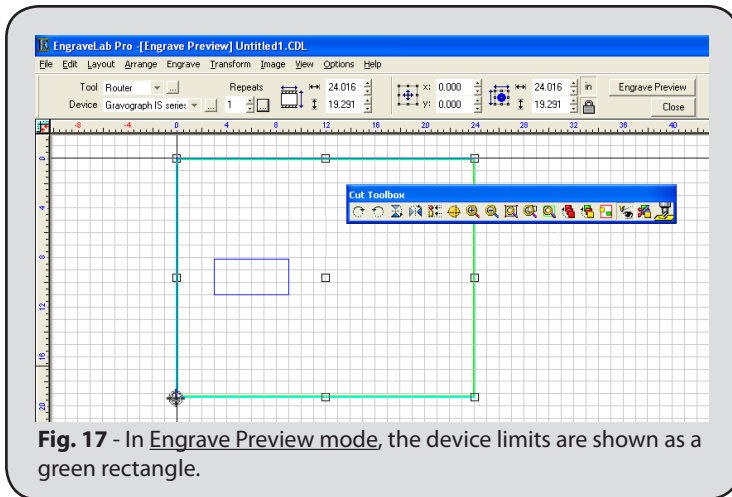

Fig. 17 - In **Engrave Preview** mode, the device limits are shown as a green rectangle.
1. Now that the tool path has been created, choose **Engrave** menu >> **Output** to activate **Engrave Preview** mode. The tool path will be positioned as it would be cut upon the material (Fig. 17).